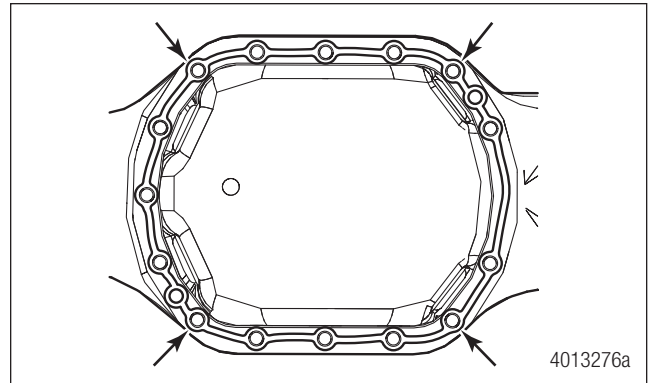

Figure 12.2
8. Tighten the two directly opposing capscrews to seat the carrier. Once the carrier is seated, tighten all of the capscrews to specification. Refer to Section 17 Front Drive Steer Axle on page 63. Figure 12.2.